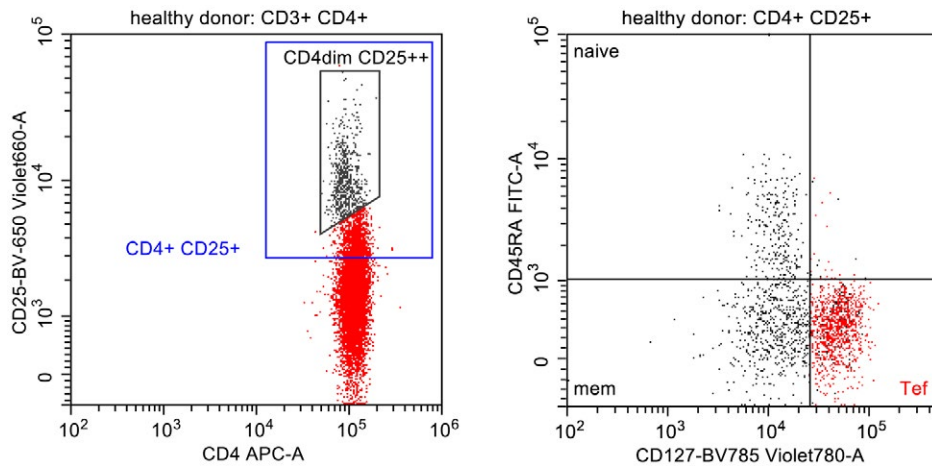

Figure 9. Detection of naïve and memory Treg populations after surface staining of CD4, CD25, CD127 and CD45RA.
Regulatory T cells (Treg) play a crucial role in down-modulating immune responses and thereby promoting tolerance and preventing autoimmunity. They are CD4+ and are characterized by an increased expression of the IL-2 receptor alpha chain CD25 and low/neg expression for the IL-7 receptor alpha chain CD127. Treg cells can be further subdivided in CD45RA+ naïve Treg and CD45RA- memory Treg (13). Figure 9 shows how CD4dim CD25++ Treg cells were gated (black). In the 2nd step, looking at all CD4+ CD25+ cells that include activated effector T cells (Teff) in addition to Treg, Treg show a lower CD127 expression than effector T cells (red). Additionally, the Treg subpopulation is subdivided in naïve CD127low CD45RA+ and memory CD127low CD45RA- cells.